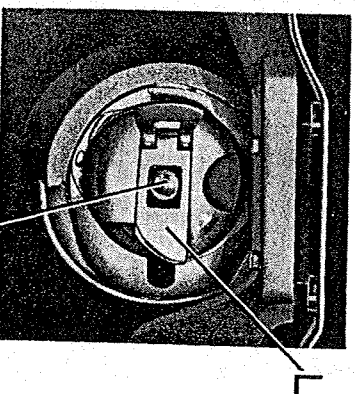

Fig. 5
Take the threaded bobbin case by the latch and place it on the center stud A (Fig. 5) of the bobbin case holder. Release latch and press bobbin case onto center stud until the latch catches the undercut thereon with a click that can be heard. Permit two to three inches of bobbin thread to hang down freely. Be sure to push slide plate to the right before starting to sew.
Turn handwheel toward you until needle reaches its highest point. Open slide plate by pulling it to the left. Pass left hand under table into opening on oil pan. With left thumb and index finger open the hinged latch (L) (Fig. 5) at the front of the bobbin case. Grasp latch and pull bobbin case and bobbin from rotary hook. While the latch is held open, the bobbin will be retained in the bobbin case. Release of the latch and turning of the open side of the bobbin case downward will cause the bobbin to drop out.